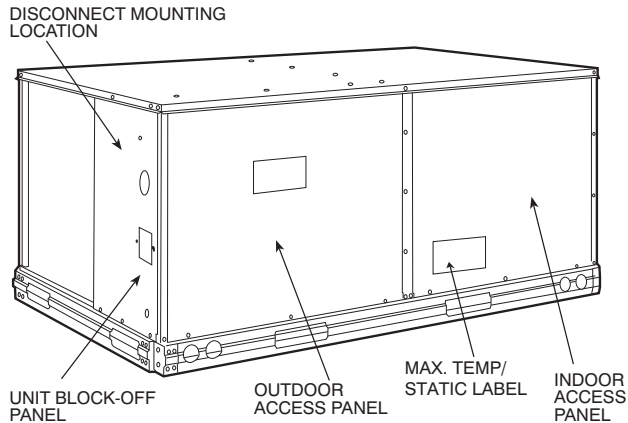

Fig. 37 - Typical Access Panel Location
2. Remove the outdoor access panel, control box cover, and indoor access panels from the unit. Save screws (See Fig. 37, 38, and 39).